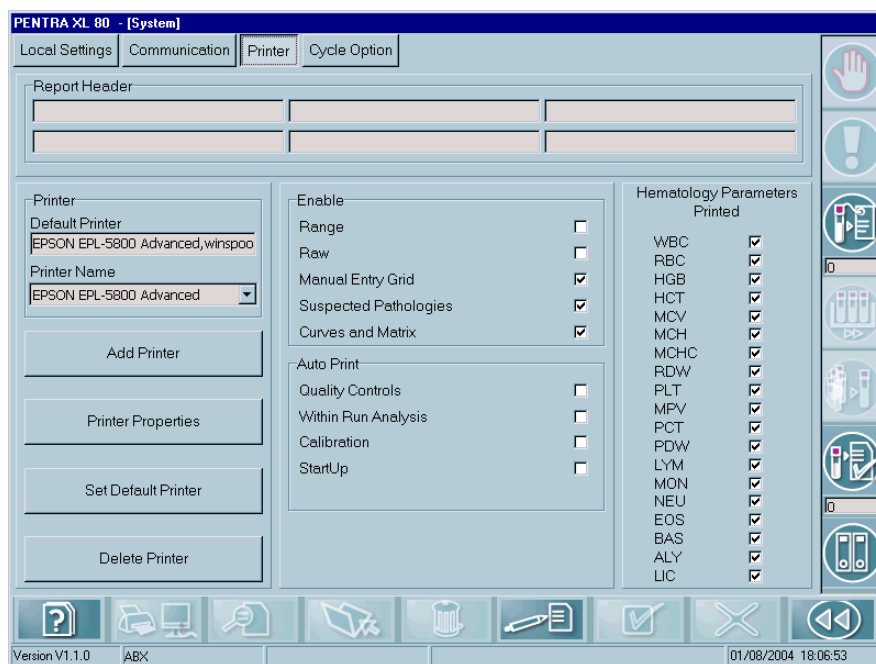

Fig. 5-24 System Printer tab
Default settings for the checked boxes are as shown Fig. 5-24, page 5-31.
- ◆ «System\Printer\Raw» option (See **Fig. 5-24**“System Printer tab”, page 31) has been checked in this screen